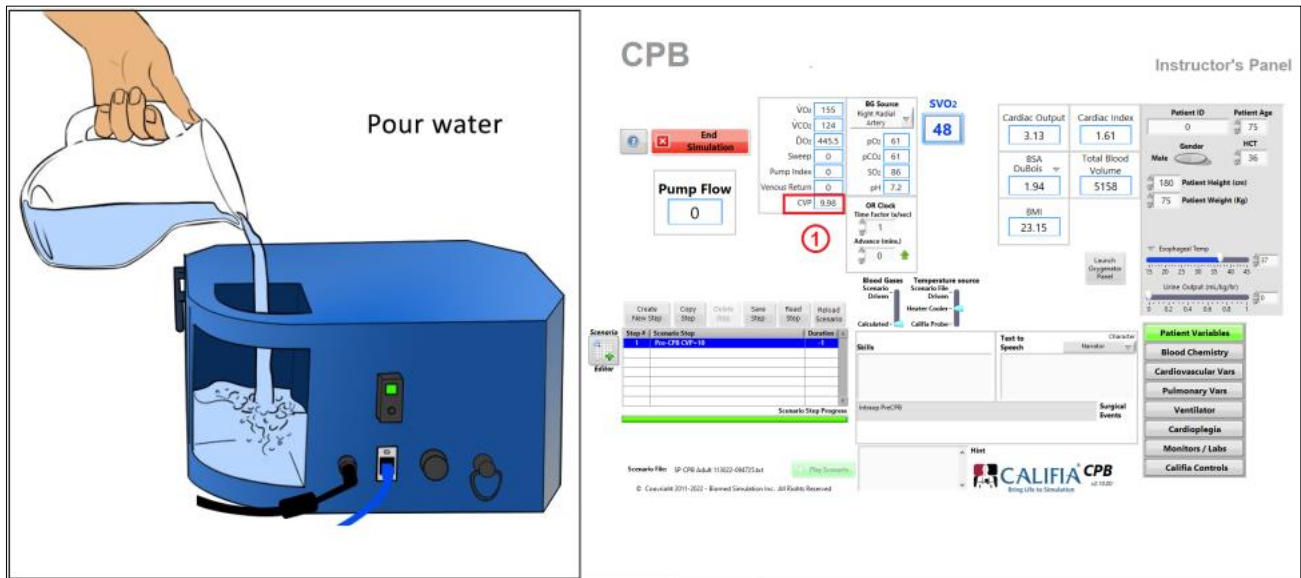

Figure 4.4 Fill CPM with water to match target CVP
Fill Califia's Reservoir until CVP is 10 mmHg, ① in Figure 4.4.